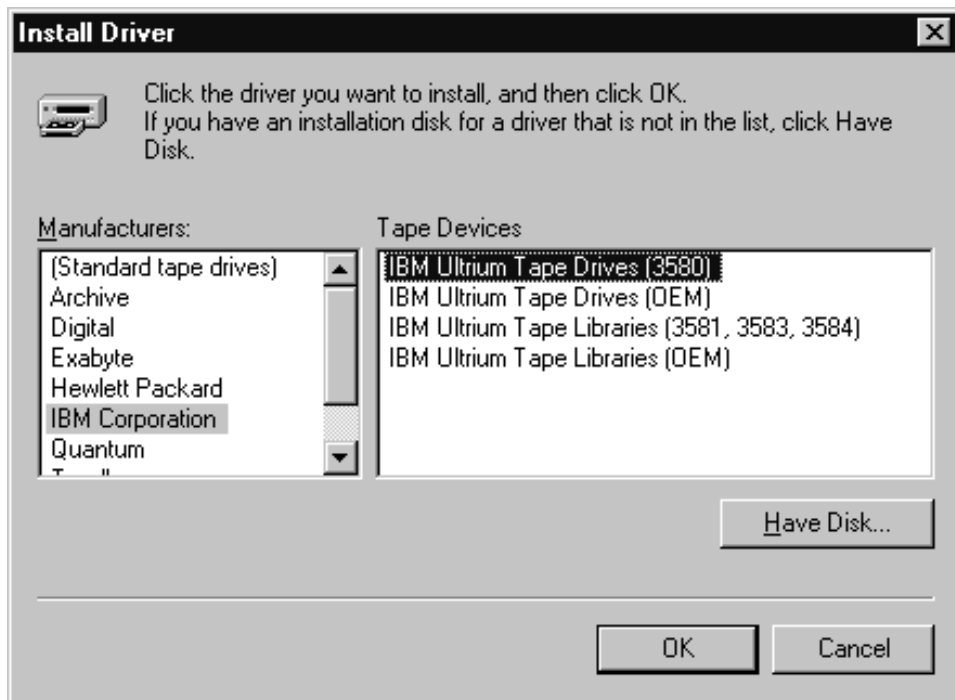

Figure 17. Install Driver Menu
8. Click **IBM Corporation**, select the device driver that matches your tape device, then click **OK**. See Figure 17.